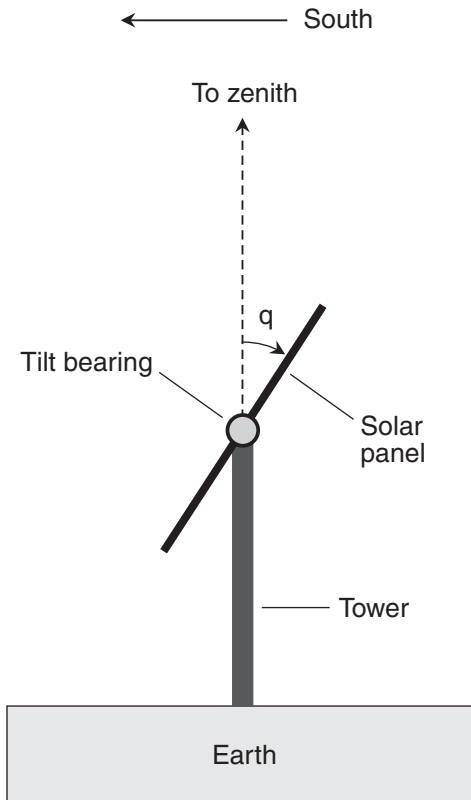

Figure Exam-7 Diagram for question 77.
77. Figure Exam-7 shows a solar panel with an adjustable tilt bearing. The panel is viewed edge-on, looking west. What is the optimum tilt angle q for year-round panel use at 55° north latitude, assuming the bearing will never be adjusted again once it has been set?